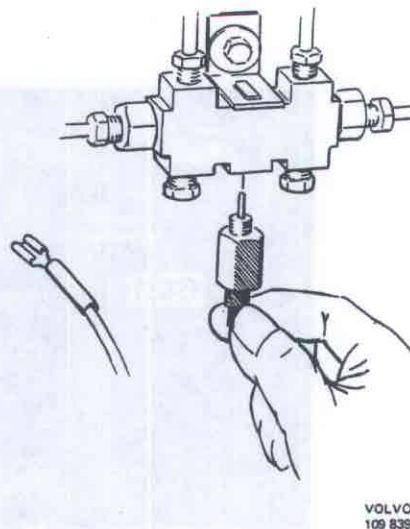

Fig. 46-110. Removing the contact
7. Bleed the wheel cylinders. The pressure-difference contact should be removed before bleeding, see Fig. 46-110. If a bleeder unit is used, the working pressure should be 0.2 MPa (2 kp/cm² = 28 lbf/in²). For more detailed instructions about bleeding, see Part 5.